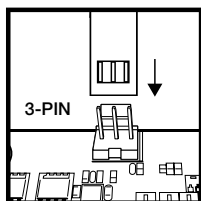

Figure 1
- > Connect pump tach cable to the CPU_FAN header on your motherboard (Figure 1).